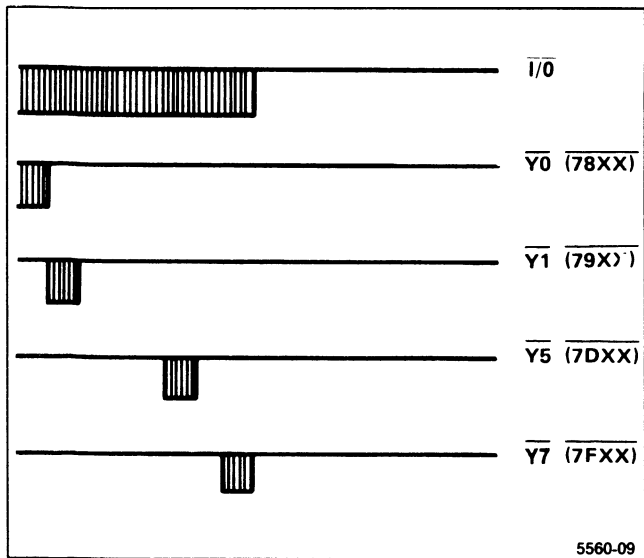

Figure 6-29. Chip selects Y0, Y1, Y5, and Y7 in relation to  $\overline{I/O}$ .
**Processor Address Decoder** — Address decoder U3035 on the Processor board decodes several chip-selects. Y0, Y1, Y5, and Y7 are shown in relation to the  $\overline{I/O}$  line in Figure 6-29.